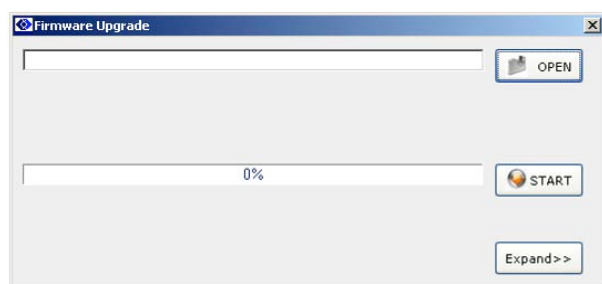
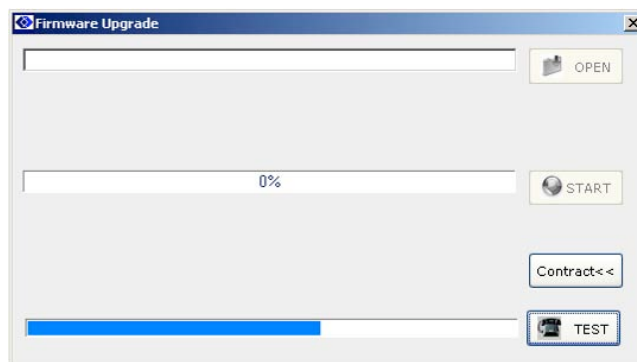

Figure 1
Figure 2
- 2) Click “Firmware Upgrade” from the Start menu, or start “Firmware Upgrade.exe” under the folder of upgrading software installation, the screen will show you the upgrading procedure interface (refer to Figure 1). Press “ Expand” to enter into the expansion interface (refer to Figure 2). Press “Test” to test whether the RS232 connection is connected normally. If it is normal, the computer will display “communication is normal”. Press “Compress” to resume the original interface.
Tube	Under this mode (once entering into the thermostatical state after reaching target temperature and decreasing about 3□), reagent's temperature can be close to target temperature very fast (see Fig. 2).